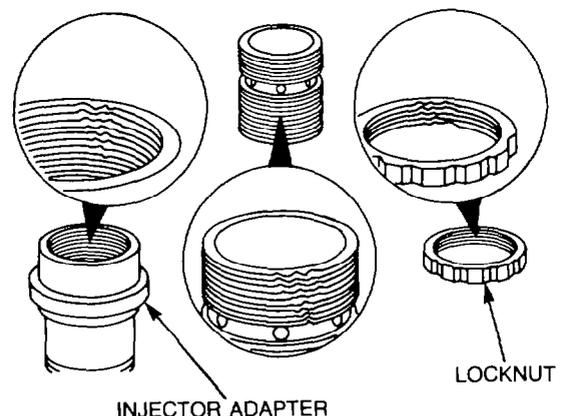

Figure 92 — Stop Screw, Lock Nut and Injector Adapter — Inspection
- an. Inspect the stop screw, lock nut and injector adapter threads for damage (see Fig. 92) and replace as necessary.